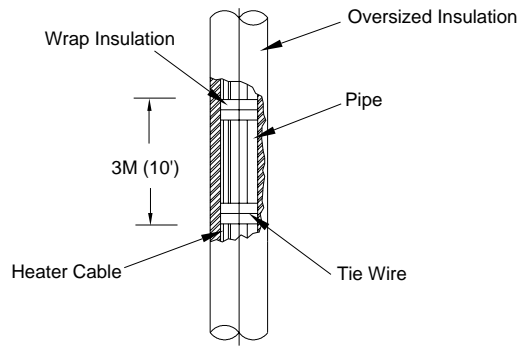

Figure 21
- Long vertical runs of oversized pipe insulation will experience temperature piling (heated air circulating upward). This can be reduced by installing air baffles at approx. 3m (10') intervals. See **Figure 21**.